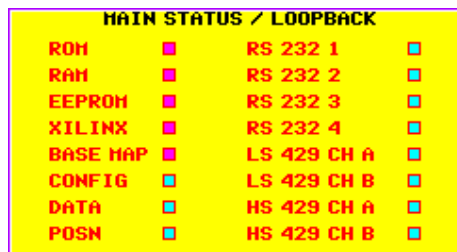

Figure 5-12. Main Status/Loopback Test Page
3. Verify 429 RX 1 LOWSPEED OK and 429 RX 2 LOWSPEED OK via the Main Status/Loopback Test Page (Figure 5-12).
4. Verify 429 RX 1 HIGHSPEED OK and 429 RX 2 HIGHSPEED OK via the Main Status/Loopback Test Page (Figure 5-12).